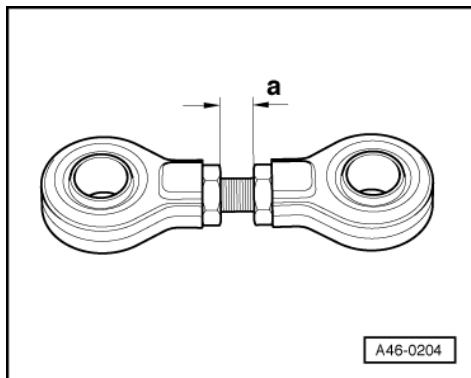

Fig.1 Adjusting connecting linkage
- ♦ Adjusting the connecting linkage =>Fig. 1